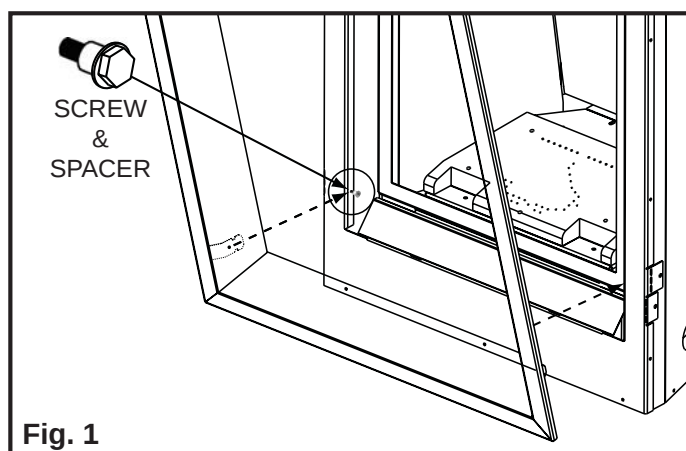

Fig. 1
1. Attach hex drive screw and spacer to the bottom of both sides of the front housing. (Fig. 1)